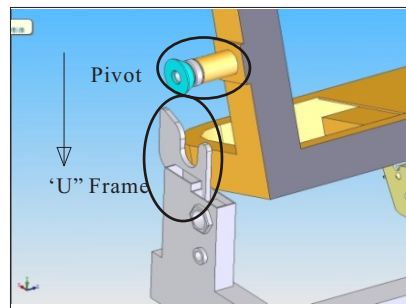

Fig.2
- \* Align both pivots correctly so they rest perfectly onto the "U" pivot frame (Fig.2)
- \* Figure 2: Close-up view of pivot and "U" pivot frame.